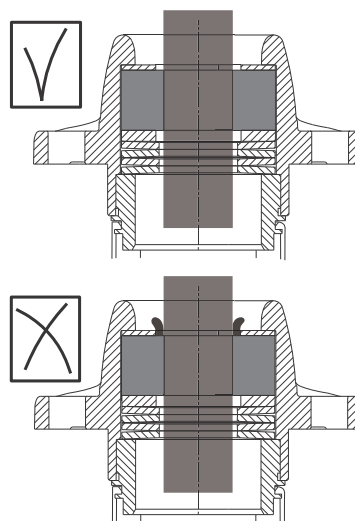

Fig. 19 Cable entry, rubber seal mounting
The inner diameter of the washer (198b) needs to fit with the outer diameter of the cable to avoid deformation of the rubber seal (198). See fig. 19.